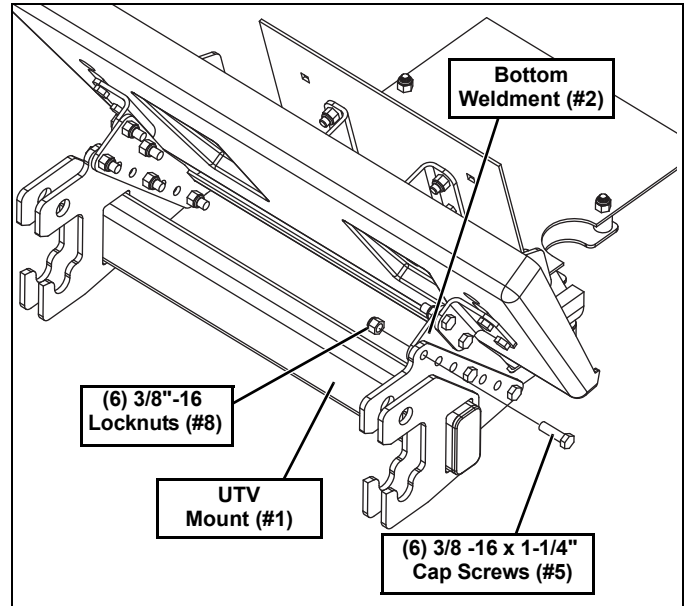

Figure 7
- Insert (6) 3/8"-16 x 1-1/4" Cap Screws (#5) into the UTV Mount (#1) and through the Bottom Weldment (#2). Secure with (6) 3/8"-16 Locknuts (#8) (See Figure 7).